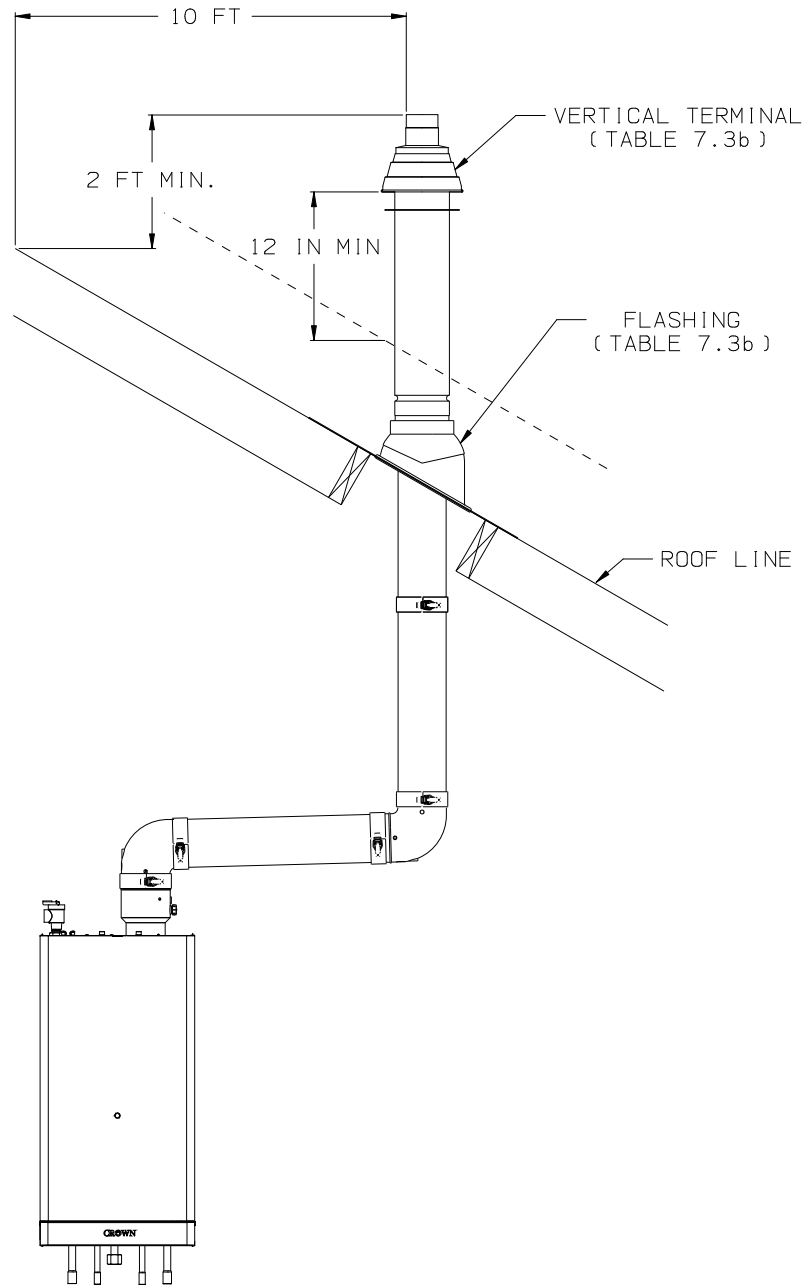

Figure 7.7: Vertical Concentric Vent System (Vent Option 5)
- 7) Vertical Vent Terminal Locations (Vent Option 5) - Observe the following limitations on the location of all vertical vent terminals (see Figure 7.7):
ILLUSTRATED IN FIGURE	7.7